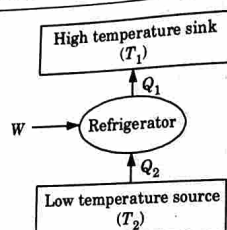

Fig. 1.20.2. A schematic diagram of a refrigerator.
3. The desired effect of a refrigerator, under a steady state, is to pump out the heat in the same rate as is infiltrating into the system (Q_2). And in order to do so, the refrigerator takes up W amount of external work (Fig. 1.20.2).